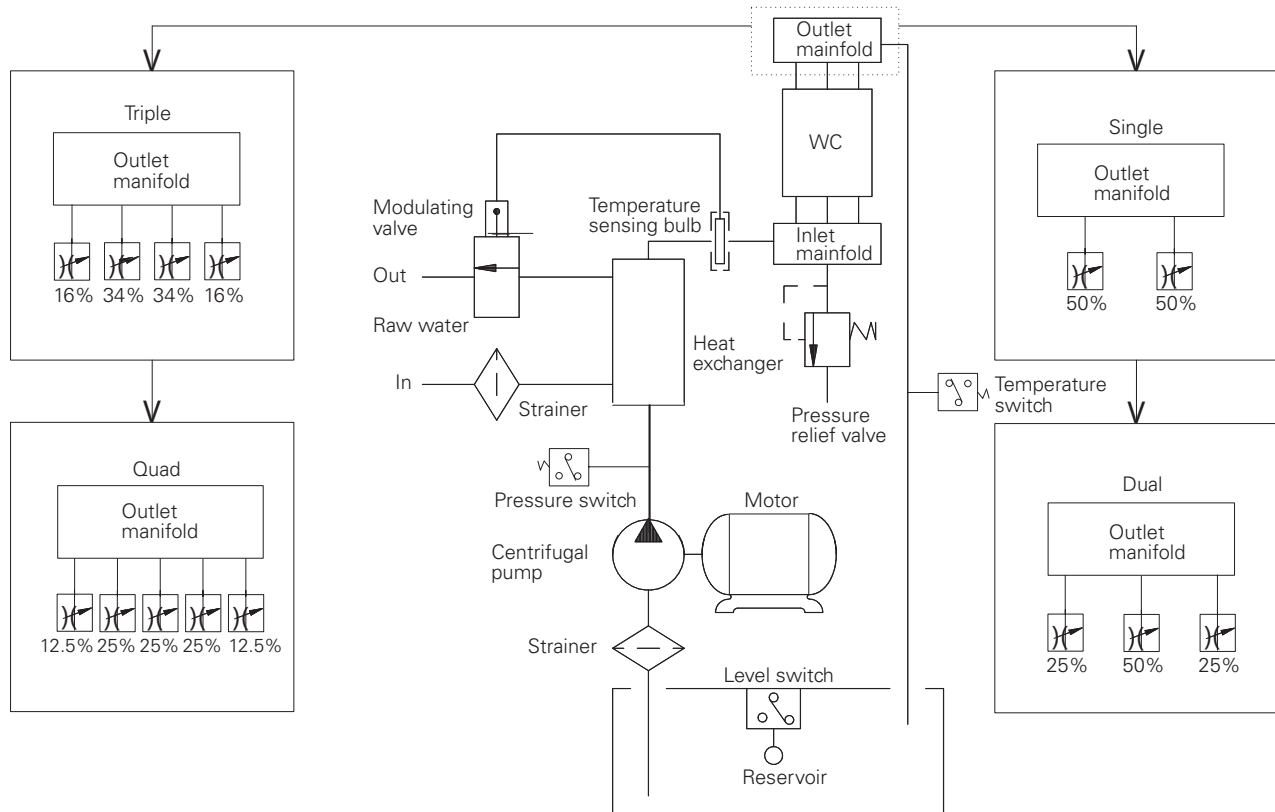

Figure 5
2.4.11 Figure 5 illustrates a typical closed loop liquid to liquid coolant system. The heat exchanger and temperature control would be replaced with a radiator, fan and motor in a liquid to air system.